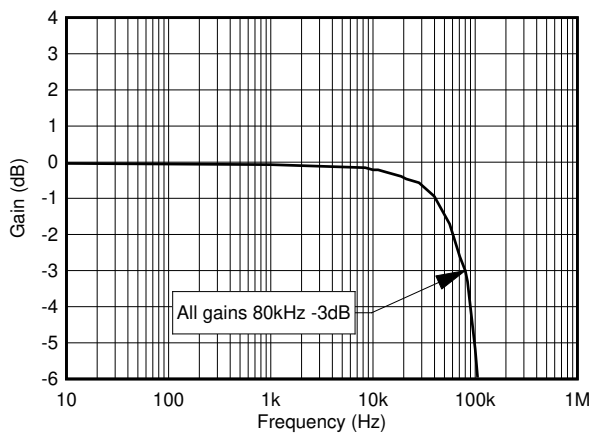

**图 9-8. Input-Referred Offset Drift After AEC-Q100 High Temperature Operating Life Stress Test**
The same compensation techniques used in the TMCS1101-Q1 to reduce temperature drift also greatly reduce lifetime drift due to aging, stress, and environmental conditions. Typical magnetic sensors suffer from up to 2% to 3% of sensitivity drift due to aging at high operating temperatures. The TMCS1101-Q1 has greatly improved lifetime drift, as defined in the Electrical Characteristics for total sensitivity error measured after the worst case stress test during a three lot AEC-Q100 qualification. All other stress tests prescribed by an AEC-Q100 qualification caused lower than the specified sensitivity error, and were within the bounds specified within the Electrical Characteristics table. 图 9-6 shows the total sensitivity error after the worst-case stress test, a Highly Accelerated Stress Test (HAST) at 130°C and 85% relative humidity (RH), while 图 9-7 and 图 9-8 show the sensitivity and offset error drift after a 1000 hour, 125°C high temperature operating life stress test as specified by AEC-Q100. This test mimics typical device lifetime operation, and shows the likely device performance variation due to aging is vastly improved compared to typical magnetic sensors.